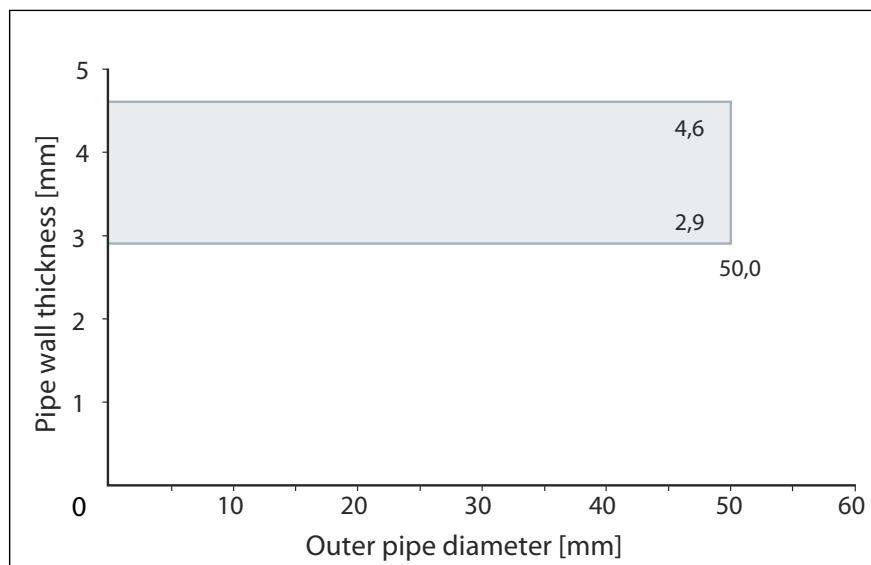

Figure 7: Pipe dimensions for combustible pipes made of PE, ABS, SAN+PVC
- Pipes with polyethylene (PE) according to EN 1519-1, EN 12666-1, EN 12201-2 and DIN 8074/8075, pipes made of acryl nitrile butadiene styrene (ABS) according to EN 1455-1 and pipes made of styrene copolymer blends (SAN+PVC) according to EN 1565-1 are approved up to an outer diameter of 50 mm. Comply with the approved nominal pipe wall thicknesses according to Abb. 7.